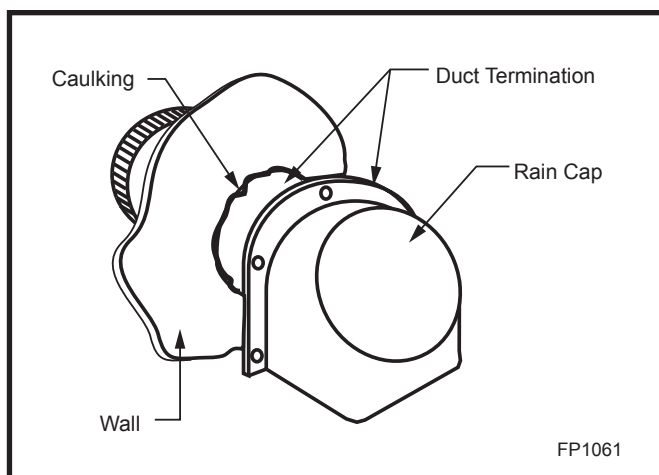

Fig. 14 Caulk and install duct termination/rain cap in place.
1. Remove and discard the outside air cover plate located at the center of both sides of the fireplace. Use care not to rub against the sharp edges of this opening to avoid cuts. Remove the four (4) screws exposed when cover plate is removed. Retain for future use.
2. Slide the two (2) connecting boxes provided with the unit into the openings on each side of the unit.
3. Attach the connecting boxes to the inside panel with four (4) screws removed in Step 1.
4. Attach the inlet collar with four (4) #10 screws to the side near the bottom of the fireplace. Slide the duct over the collar and attach the duct to the collar using the plastic tie straps or three (3) screws (screws not provided). Continue attaching the ducting together using three (3) screws at each joint until you have installed sufficient duct to arrive at your duct termination location.
5. At the termination end, install the duct termination. This should be installed from the outside of the home. Cut a hole in the desired location approximately 4½" in diameter, caulk around the hole, and slide the termination through the opening from outside the home. The termination/rain cap should be caulked around its perimeter to assure a tight seal. The rain cap opening should be positioned downward. (Fig. 14)